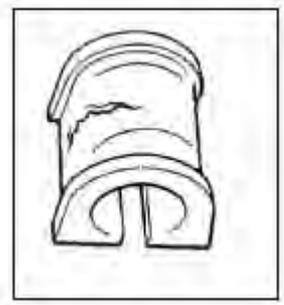

FIG.14-8
- (2) Check bush for cracks or aging; replace them if necessary.(FIG.14-8).